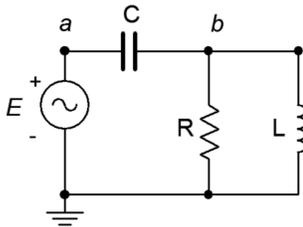

Figure 4.21
36. In the circuit of Figure 4.21, determine a value for L such that the magnitude of  $v_b$  equals  $v_a/2$  if the source frequency is 10 kHz,  $R = 2.7 \text{ k}\Omega$  and  $C = 10 \text{ nF}$ .
37. Given the circuit of Figure 4.21, determine a value for C such that the source current is in phase with the source voltage. The source frequency is 1 kHz,  $R = 68 \Omega$  and  $L = 22 \text{ mH}$ .